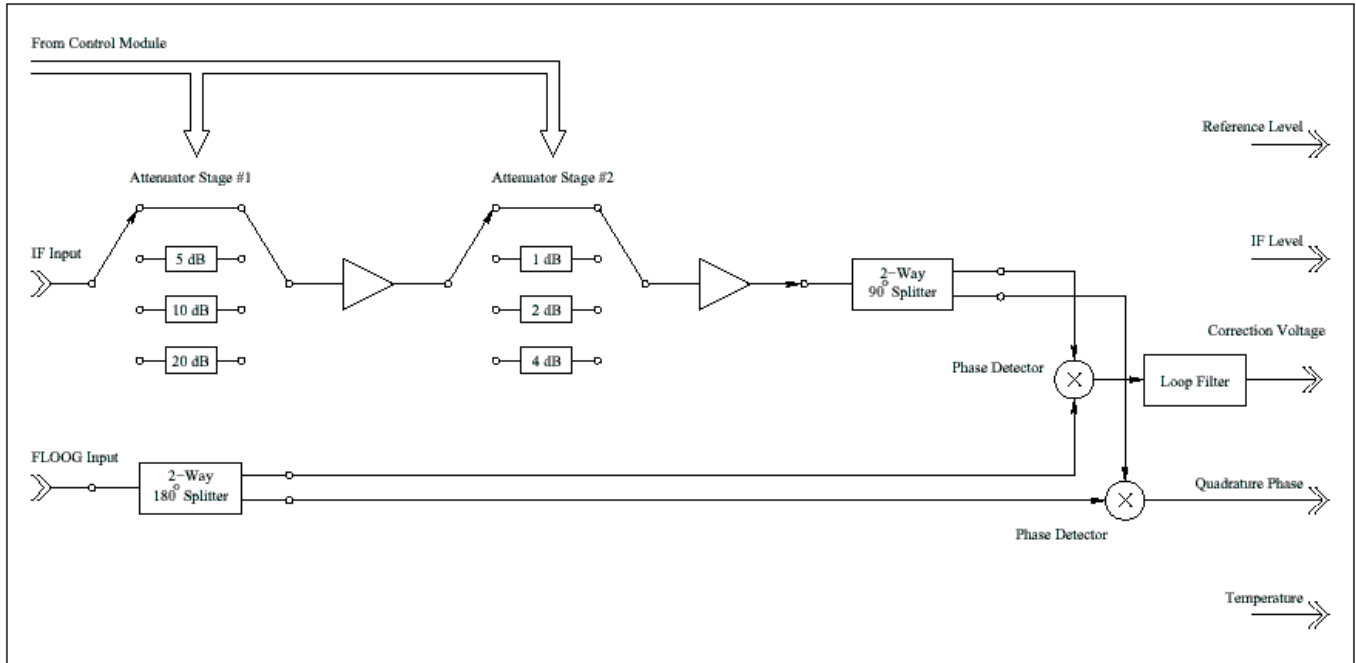

Figure 1: Block Diagram of PLL Circuit
Figure 1 is the block diagram of the PLL circuit¹ in the Warm Cartridge Assembly. To independently test the PLL assembly, K. Saini recommended injecting a 30 MHz, -20 dBm signal into the "IF Input" port shown in the figure and commanding the attenuators with Christian's LabVIEW program while examining two responses:
2. The detected PLL IF power, which is from a crystal detector in the PLL box located after the second amplifier in Figure 1 but not drawn in that figure.